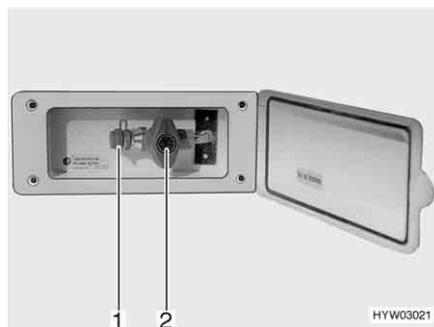

Fig. 116 External gas connection, gas isolator tap closed
The external gas connection (Fig. 116) is located at the rear or to the left or right of the vehicle depending on the model.
- Connect the external gas device to the connection point (Fig. 116,1).
- Open the gas isolator tap (Fig. 116,2).